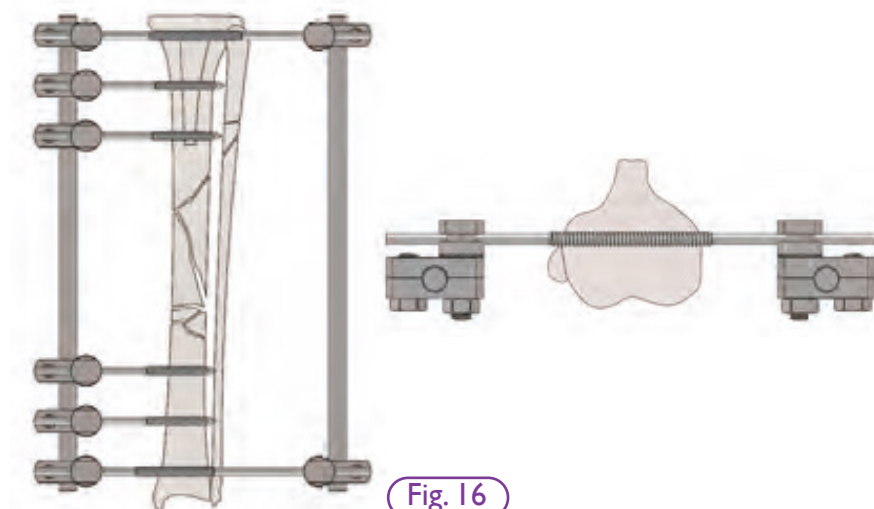

Fig. 16
**Type II modified (type IIB): Bilateral, Uniplanar with full and half pins. (Fig. 16).**